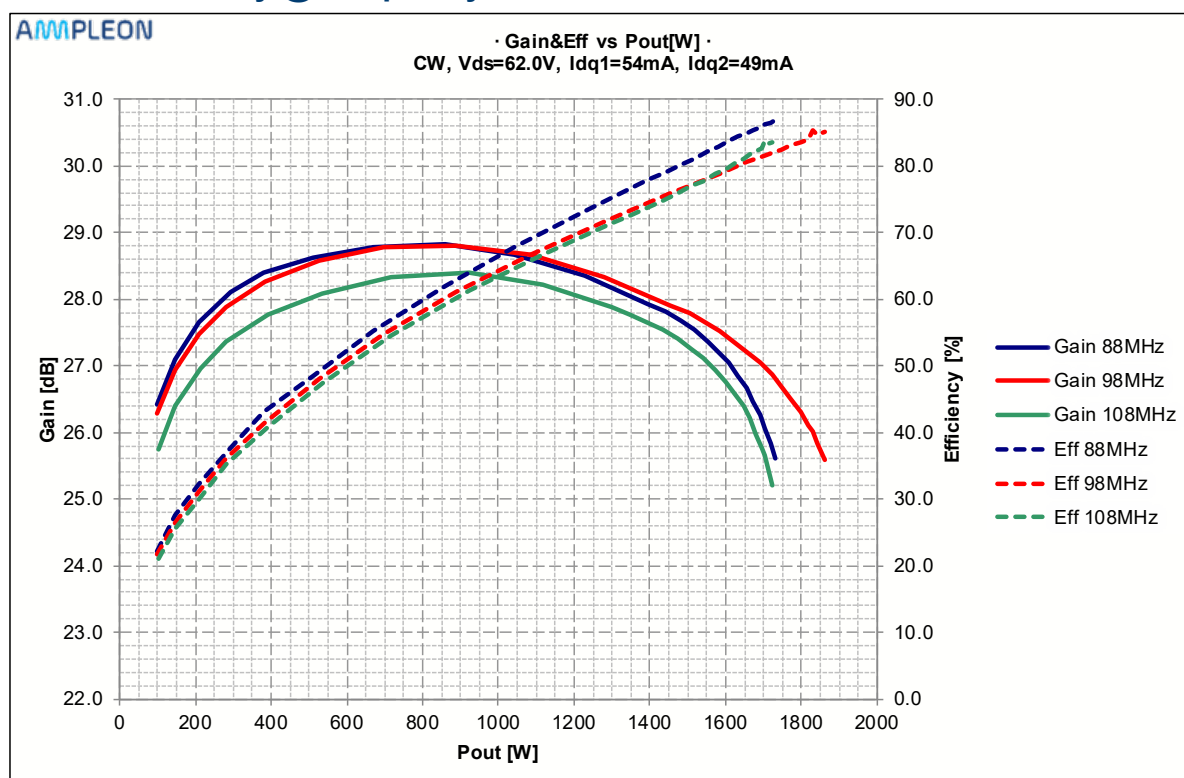

Figure 3 CW (Vds=62V) Gain and Efficiency vs Pout [W]
- Figure 3 CW (Vds=62V)Gain and Efficiency vs Pout [W] 6